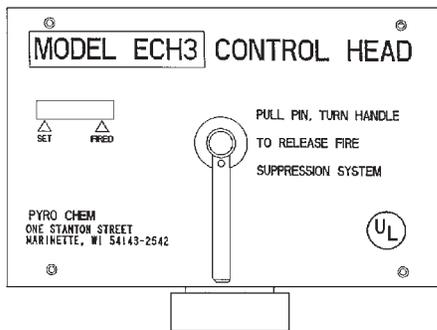

**Figure 2-5. Mechanical Control Head.**
The Model MCH3 mechanical control head is a fully mechanical control head which can be connected to the PCI-15/25s/35/50s/70 cylinder valve. This control head will support a fusible link detection system, a remote mechanical pull station (Model RPS-M), and a mechanical or electric gas shut-off valve. A micro switch (Model MS-SPDT, MS-DPDT, MS-3PDT, or MS-4PDT) can be ordered separately and field installed. It is equipped with a local manual control handle that allows for mechanical system actuation. Operation of the local manual control requires removing the pull pin and rotating the handle clockwise. The Model MCH3 control head can actuate a maximum of five (5) cylinders. ▶ See **Figure 2-5**.